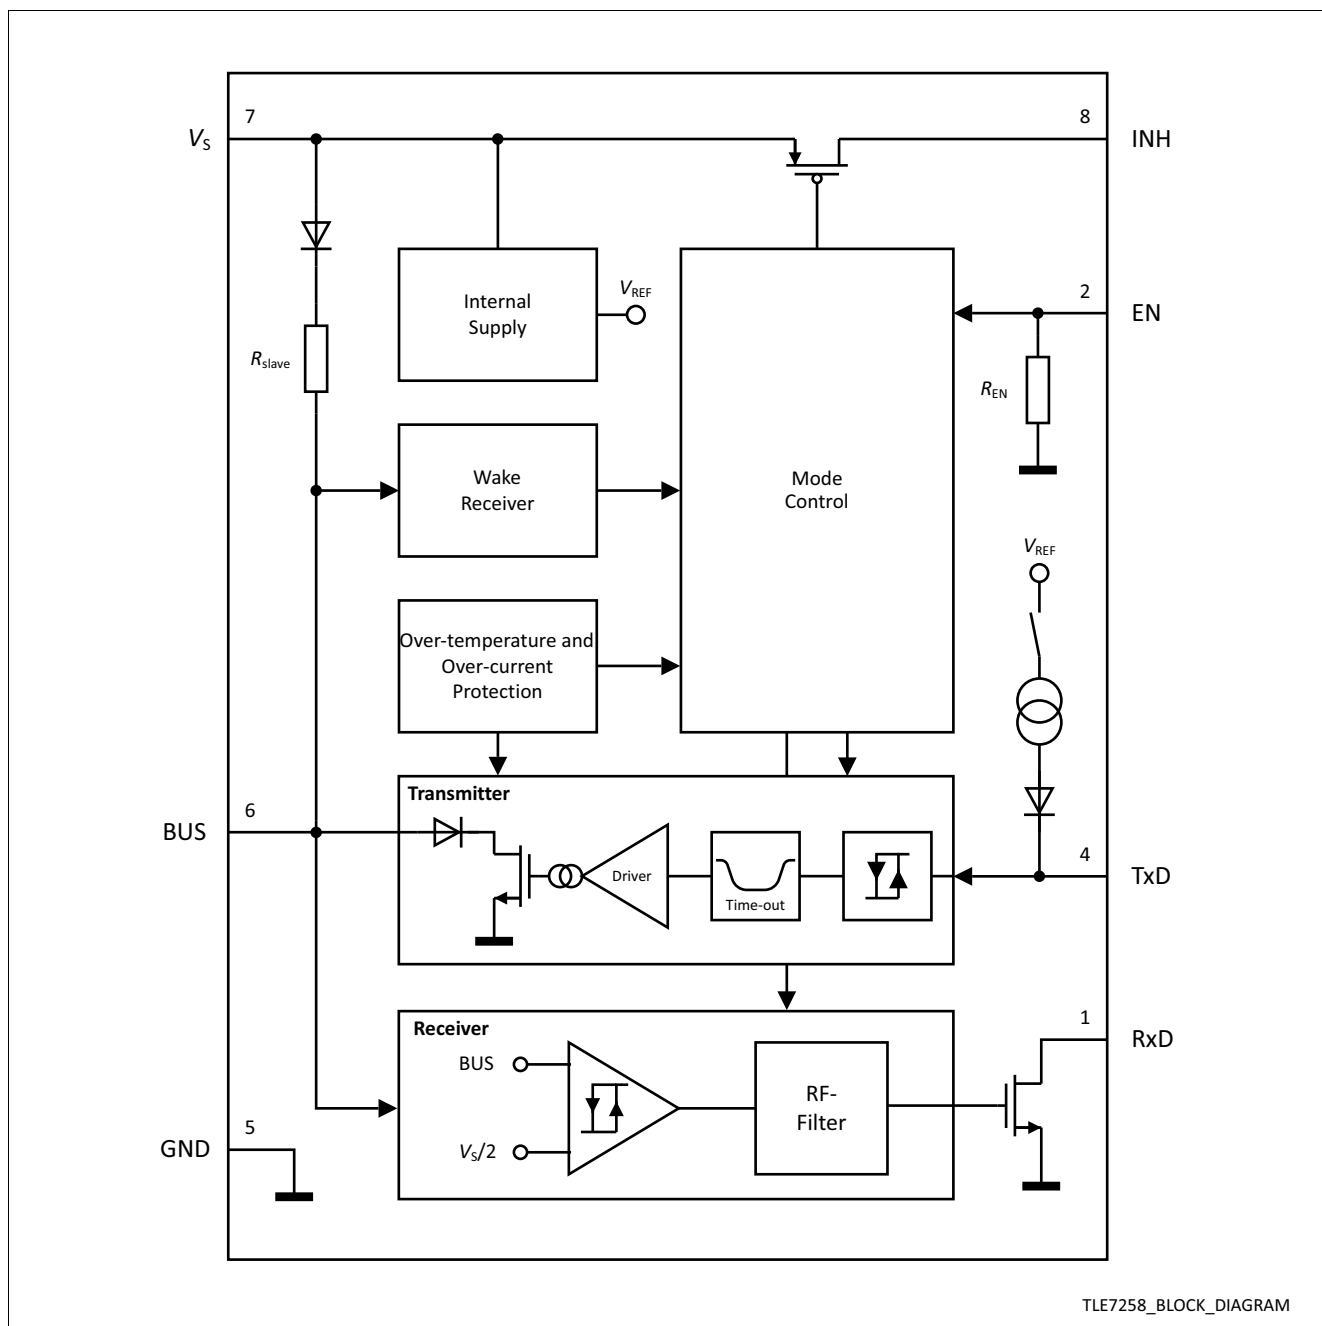

Figure 1 Block diagram
1) The TxD input is disabled in Sleep mode and the internal pull-up current source is switched off (see Figure 1).
- The BUS pin is terminated to V_S via the internal termination resistor R_{BUS} (see Figure 1).
- The BUS output is terminated to V_S via the internal termination resistor R_{BUS} (see Figure 1).